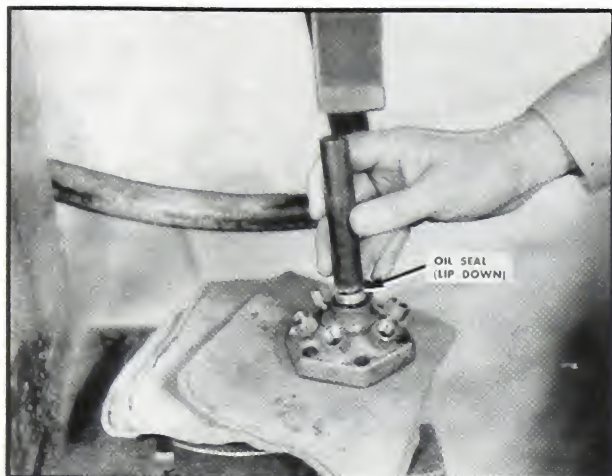

Fig. 5-204. Replacing oil seal
2. Press the oil seal down to the bottom of its counterbore. The seal lip goes down. Fig. 5-204.